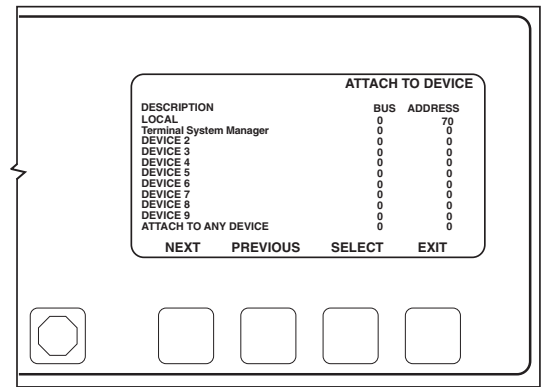

Fig. 11 — Remote Enhanced Display Attach To Device Screen
9. When the ATTACH TO NETWORK DEVICE screen appears, the display will show a list that allows up to 10 controller addresses to be entered, with the first address being LOCAL. (See Fig. 11.) If the remote enhanced display is connected to a single unit select LOCAL. This will allow the remote enhanced display to reconnect to the unit after a power interruption. Press **[SELECT]** and the BUS entry will be highlighted. Use the **[INCREASE]** or **[DECREASE]** softkey to select the appropriate bus number. Once the correct bus has been chosen press **[ENTER]**. Next, the ADDRESS will become highlighted. Using the same procedure that was used for choosing the correct BUS, select the proper address. Press **[EXIT]** when finished.